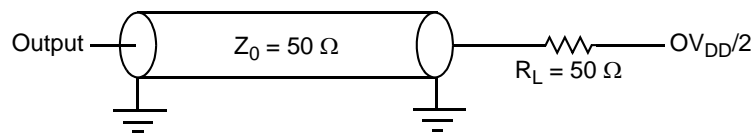

Figure 29. AC Test Load for the JTAG Interface
1. All outputs are measured from the midpoint voltage of the falling/rising edge of  $t_{TCLK}$  to the midpoint of the signal in question. The output timings are measured at the pins. All output timings assume a purely resistive 50-Ω load (see Figure 29). Time-of-flight delays must be added for trace lengths, vias, and connectors in the system.
2. The symbols used for timing specifications follow the pattern of  $t_{(first\ two\ letters\ of\ functional\ block)(signal)(state)(reference)(state)}$  for inputs and  $t_{(first\ two\ letters\ of\ functional\ block)(reference)(state)(signal)(state)}$  for outputs. For example,  $t_{JTDVVKH}$  symbolizes JTAG device timing (JT) with respect to the time data input signals (D) reaching the valid state (V) relative to the  $t_{JTG}$  clock reference (K) going to the high (H) state or setup time. Also,  $t_{JTDXKH}$  symbolizes JTAG timing (JT) with respect to the time data input signals (D) went invalid (X) relative to the  $t_{JTG}$  clock reference (K) going to the high (H) state. Note that, in general, the clock reference symbol representation is based on three letters representing the clock of a particular functional. For rise and fall times, the latter convention is used with the appropriate letter: R (rise) or F (fall).
Figure 29 provides the AC test load for TDO and the boundary-scan outputs.